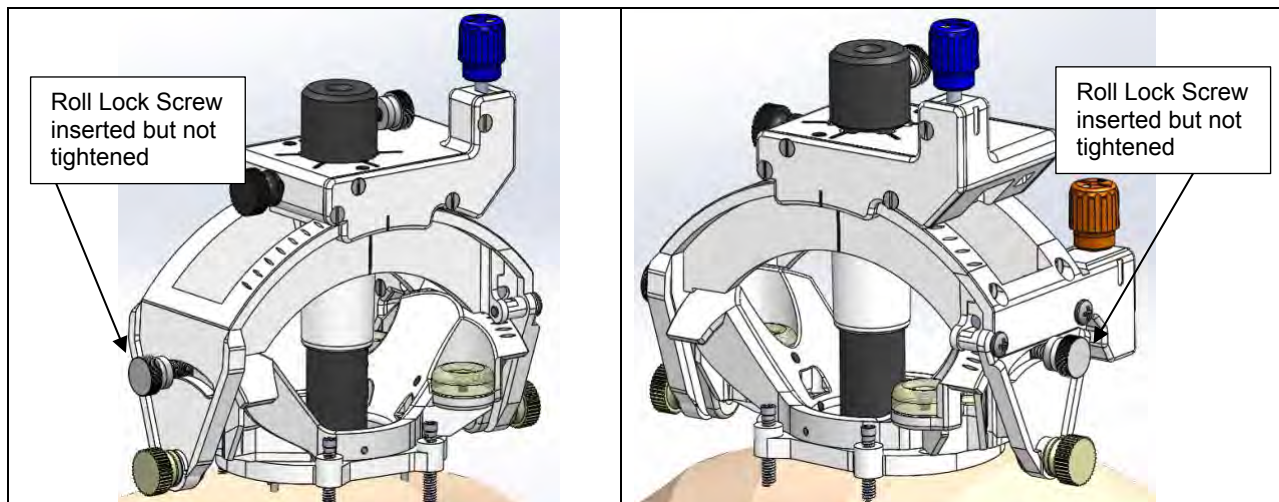

Figure 9: Roll lock screws inserted into SMARTFrame but not tightened
- Remove the two Roll Lock Screws w/ washer from the SMARTFrame Array package to pre-mount in SMARTFrame Array. Screw in partially to the appropriate location on the SMARTFrame Array. **See Figure 9.** Ensure the Roll Lock Screws with washer are not tight. These screws will be tightened later in the procedure.